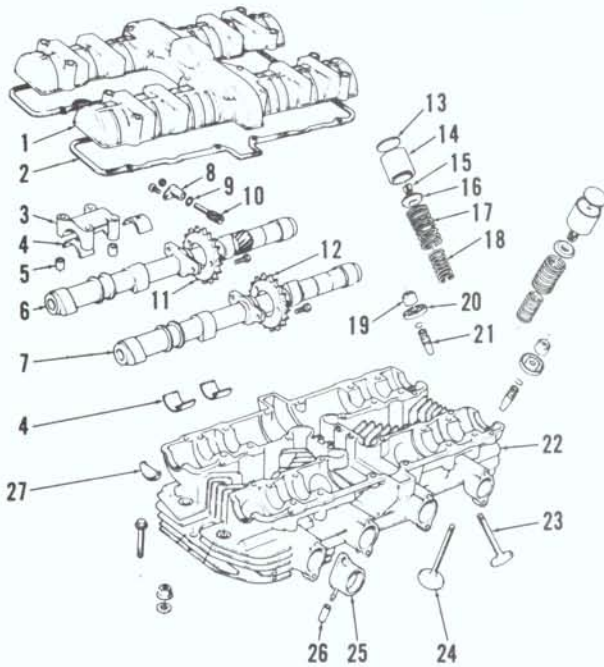

Fig. K13-15—When removing cylinder head, mark camshaft bearing inserts (4) so they can be reinstalled in their original positions.
To disassemble front forks, remove front wheel, fender and disc brake caliper assembly. Loosen fork top bolt (13), then loosen fork tube pinch bolts (11) and pull fork assembly from triple clamps. Remove top bolt (13), fork spring (15) and pour oil out of fork tube. Use an Allen wrench to remove damper holding bolt (32) then pull inner fork tube (16) from outer fork tube (29). Damper assembly (17 through 24) may be removed from inner fork tube after removal of snap ring (23). When installing front wheel, note that axle caps (31) are not symmetrical. Install caps so that no space exists between fork tube and axle cap in front of axle and there is a small, even gap (G—Fig. K13-15) between fork tube and cap behind axle. Tighten front axle cap stud nut to 1.8-2.0 kg-m (156-174 inch-pounds) torque then tighten rear stud nut to same specification.
Cylinder head may be removed without dismantling engine from frame. Remove fuel tank, carburetor assembly and exhaust system. Remove camshaft cover and cam chain idler sprocket in center of cylinder head. Remove camshaft bearing caps (3—Fig. K13-15). NOTE: Camshaft bearing inserts (4) should be marked so they can be reinstalled in original position. Attach a length of wire to cam chain to prevent it from falling into crankcase and remove camshafts. Disconnect tachometer cable and remove tachometer